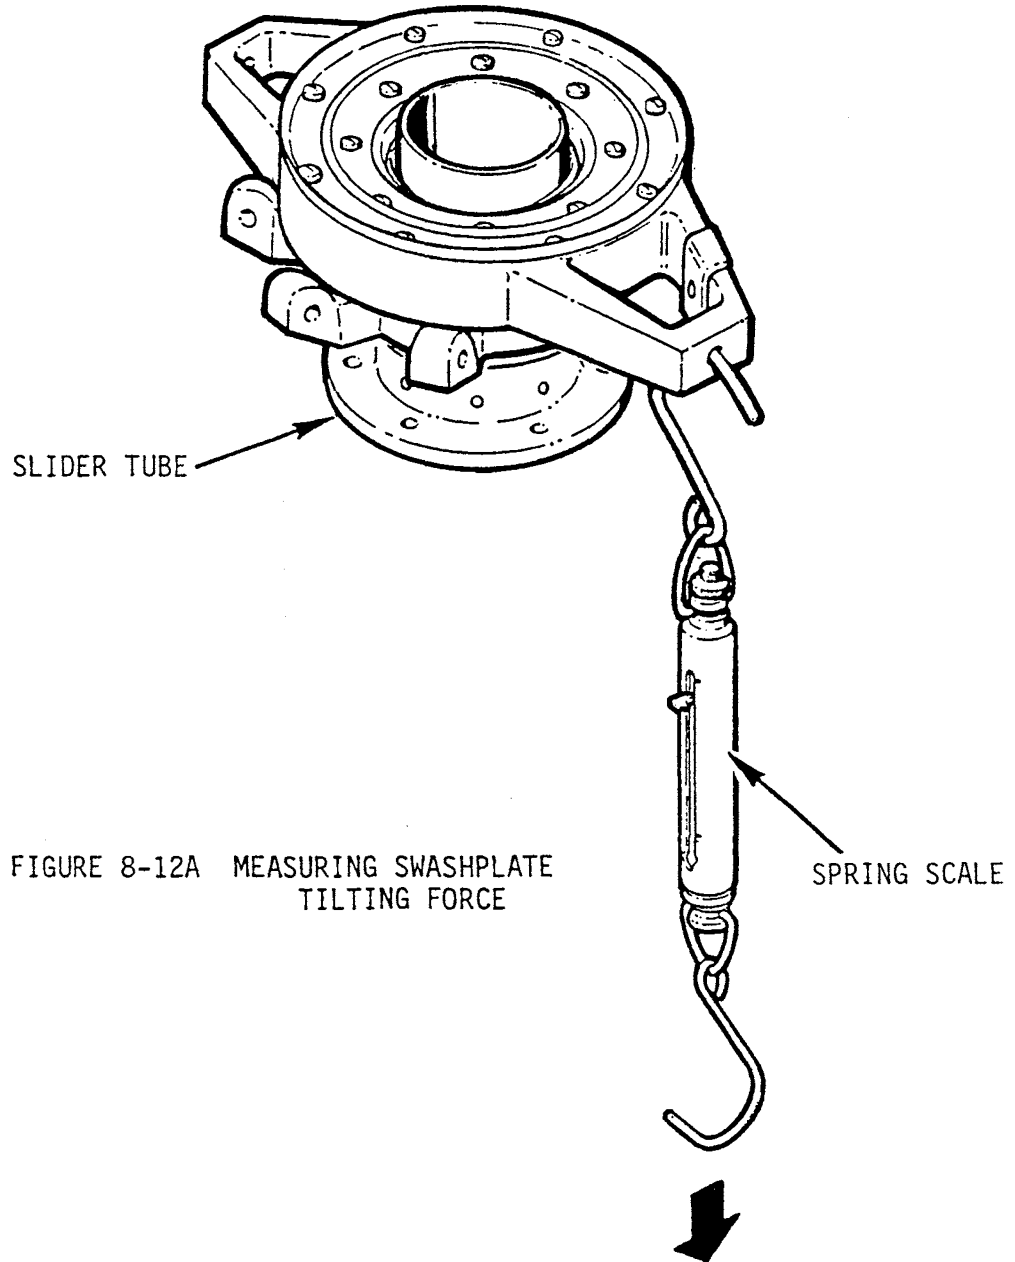

FIGURE 8-12A MEASURING SWASHPLATE
- b) Use a spring scale (MT359-1 or equivalent) to pull down at bolt hole in upper swashplate arm as shown in Figure 8-12A. The force required to tilt the swashplate must be free-without-looseness to five pounds maximum, measured while moving; do not use breakaway reading.